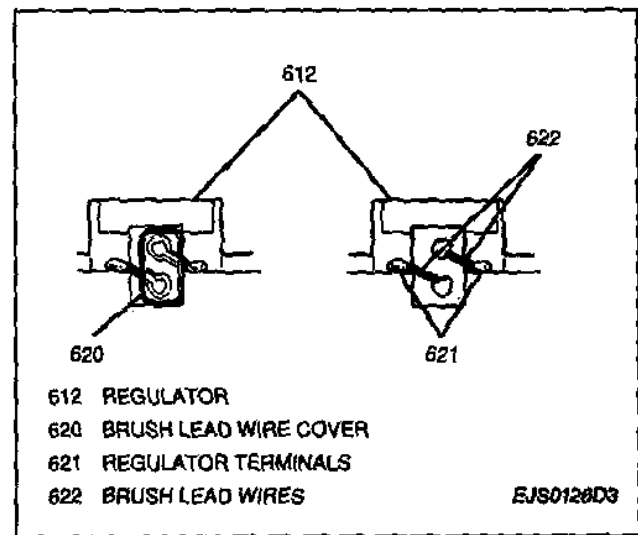

Figure 12—Removing Brushes From Regulator
17. Brushes from regulator (Figure 12).